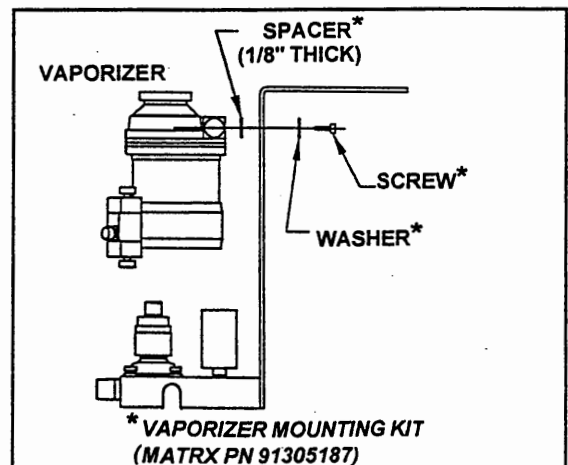

Figure 4. Vaporizer Mounting
2. Insert mounting screws and washers through slots from back of the panel as shown in Figure 4. From front of panel, place spacers on screws. Position vaporizer so mounting holes align with screws extending through panel. Tighten screws.